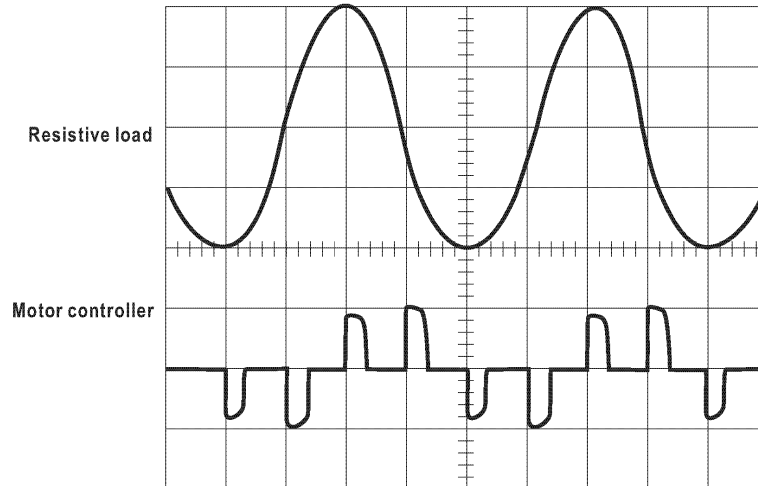

Figure 6: Typical current waveforms
5. Adjust the oscilloscope's time base as necessary to get a clear and stable view of the signal. Set the oscilloscope input to DC volts to see both the AC and DC currents, or set the input to AC to see the AC current only. Figure 6 shows the difference between the line current drawn by a resistive load and a motor controller.